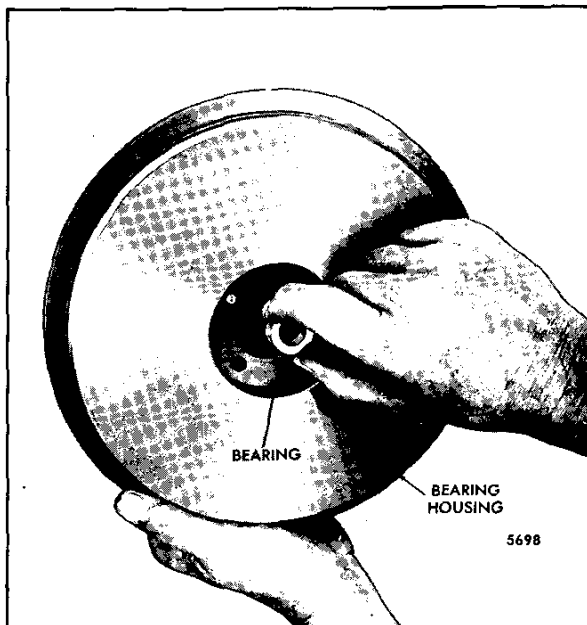

Fig. 9 - Removing Turbine Shaft Bearing from Bearing Housing
12. Remove and discard the turbine shaft bearing from the bearing housing bore (Fig. 9).